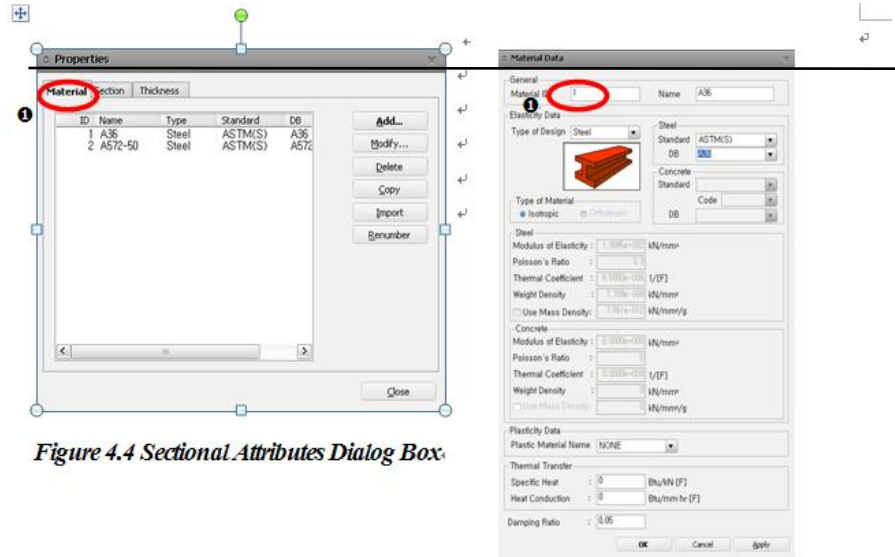

Figure 4.4 Sectional Attributes Dialog Box
2. Click **Material** in the **Properties** dialog box (Figure 4.4 ❶).
1. Select the **Section** tab in the **Properties** dialog box (Figure 4.4) or select **Property >  Section** from the Main Menu.